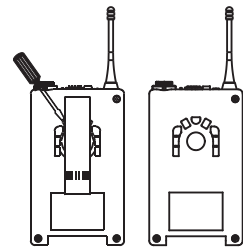

Fig. 9
- 31 Detachable Belt Clip: Allows the transmitter to be worn on a belt, waistband or guitar strap for a 360 degrees rotating. To detach simply use a screwdriver at a 45 degree angle to unfasten, See Fig. 9.